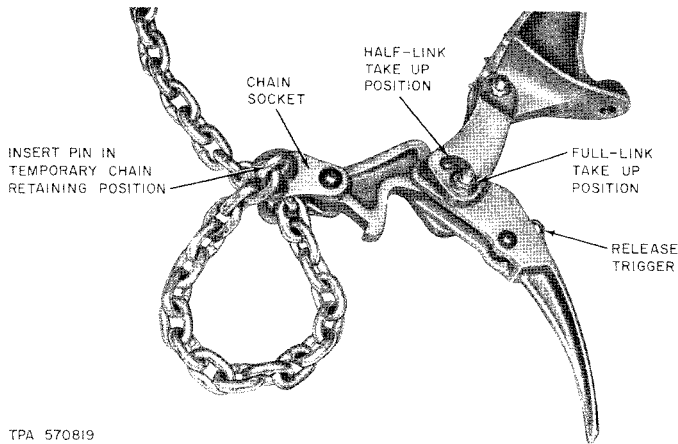

Fig. 5—Open Position
3.01 Before installing a pole platform, the craftsman should familiarize himself with the operation of the safety locking chain tightener. Figure 5 shows the handle in open position with the safety pin inserted in the temporary chain retaining position. The safety pin in this position prevents the chain from slipping while final adjustments are being made after the platform is attached to the pole.
Note: ⚡ On the earlier design B Pole Platforms there is no temporary chain retaining locking position in the chain socket as shown in Fig. 5. Therefore, *ensure that the chain link is properly seated in the chain socket.* ⚡